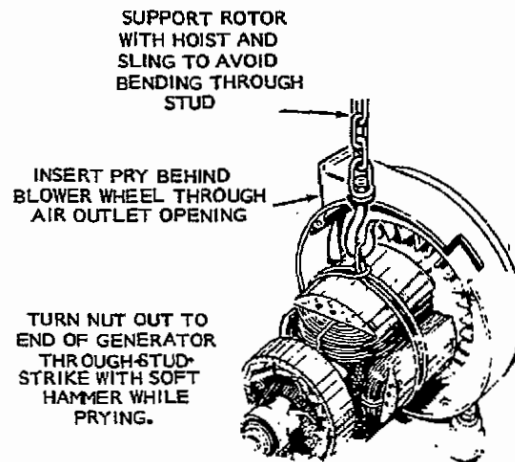

FIGURE 39. ROTOR REMOVAL
6. Remove air baffle from adapter. Turn rotor-through-stud nut to end of stud. While pulling rotor outward with one hand, strike nut a sharp blow. Support rotor with hoist and sling to avoid bending rotor-through-stud, Figure 39. Use a heavy, soft faced hammer to loosen the rotor from its tapered shaft fit. If rotor does not come loose, strike it a sharp downward blow in center of lamination stack. Rotate rotor and repeat until it comes loose. Be careful not to hit bearing or windings.